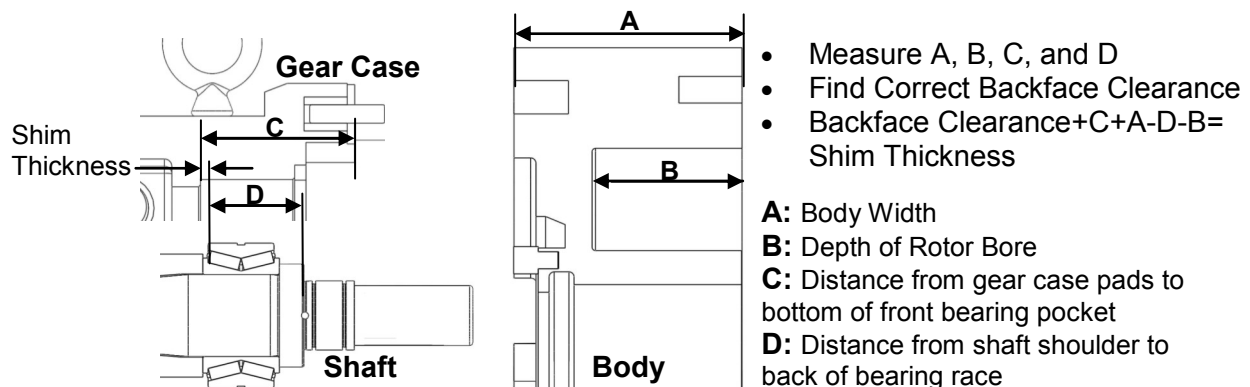

Figure 45: Calculating Shims
3) Shims located on the shaft behind the front bearing control the backface clearance of the pump; the space between the body and the rotor. If neither the shafts or bearings are being replaced, use the shims (if properly marked) removed at disassembly and reuse making sure they are installed in the correct bores. If replacing shafts or bearings, a process of calculating the required shims, is necessary. Use Figure 45 and the following equation to calculate. To find the correct backface clearance see Table 8, page 29.